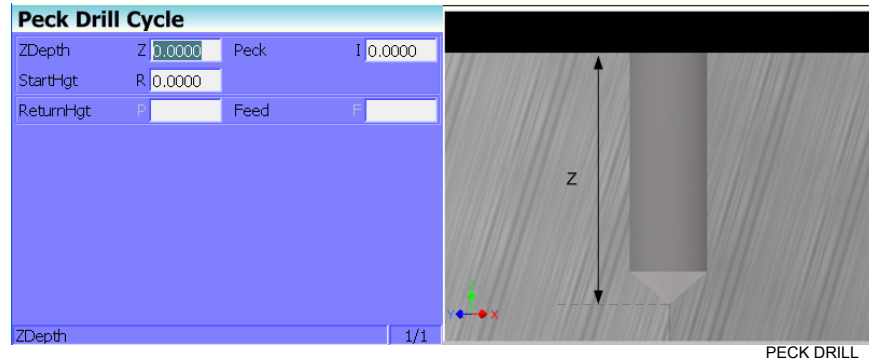

Figure 4-3, Peck Drill Cycle Graphic Menu
2. Highlight **Pecking** and press **ENTER** to display the Peck Drill Cycle Graphic Menu. Refer to Figure 4-3, Peck Drill Cycle Graphic Menu.